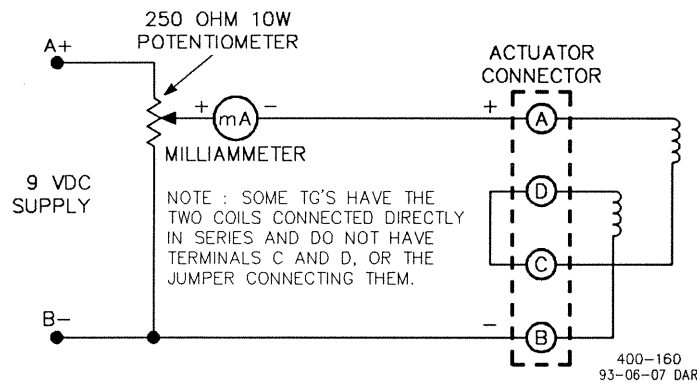

Figure 5-1. Actuator Test Circuit
7. Disconnect the leads from the actuator terminals. Hook up a circuit to the actuator, as shown in Figure 5-1.